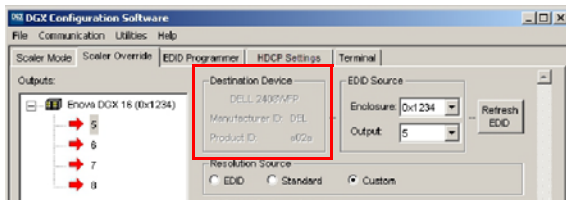

FIG. 162 Destination device description, Manufacturer ID, and Product ID
3. Under **EDID Source**, select the Enclosure and select the **Output** number connected to the desired destination from the drop-down lists. The system is queried for all compatible devices found with the default (or last saved) communication link setting (FIG. 162):